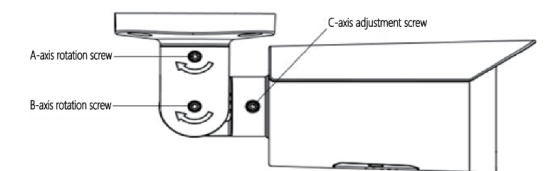

Figure 2-3 Adjusting the perspective
4. Adjust the view: this series of cameras support three-axis adjustment. Loosen the three-axis adjustment screw can be adjusted horizontally, vertically and rotation in three directions. Adjust the camera to the required monitoring orientation through the three-axis adjustment, and then tighten the bracket screws. As shown in Figure 2-3. Can be propagated 180 degrees around the A axis, can be rotated 360 degrees around the B axis, can be rotated 360 degrees around the C axis